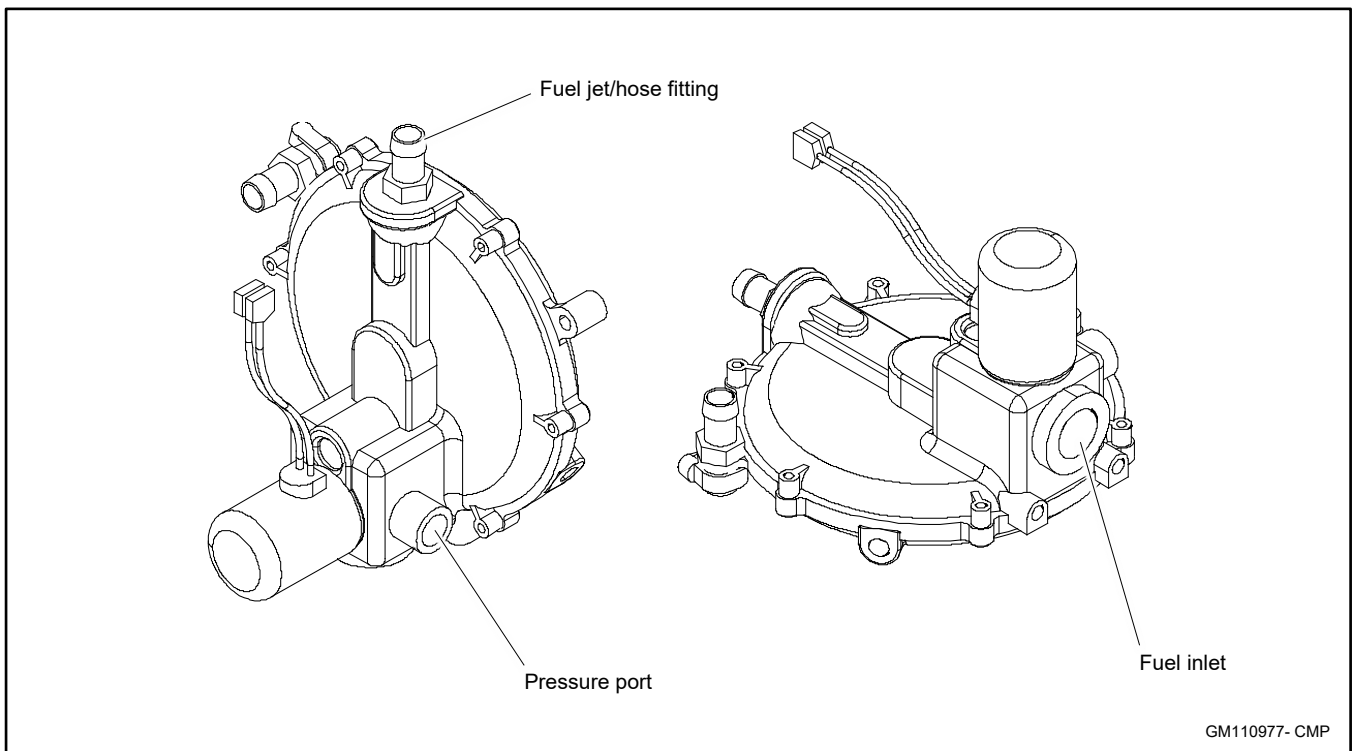

Figure 20 Fuel Regulator
6. Remove the NG fuel jet/hose fitting. See Figure 20.